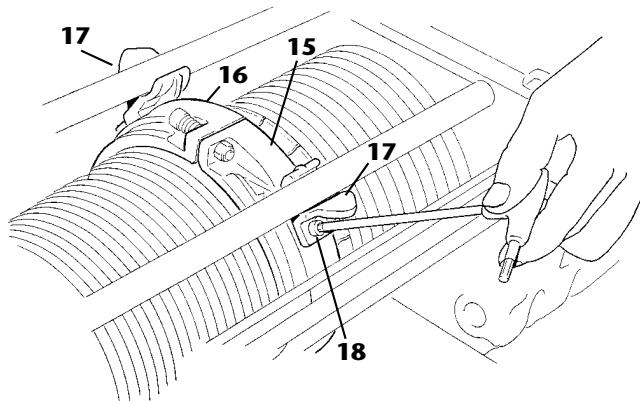

fig. 202
9. Put back the runner/reaction arm -17- on the rope guide -16- and tighten the screws -18- (fig. 202).
10. Put back the runner/reaction arm -17- on the rope guide -16- and tighten the screws -18- (fig. 202).